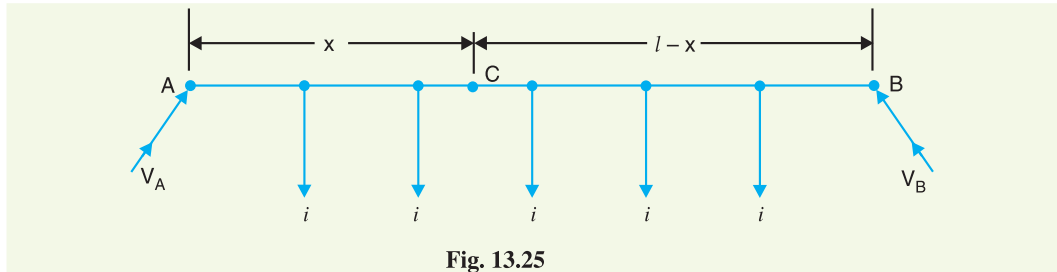

Fig. 13.25
- (ii) **Distributor fed at both ends with unequal voltages.** Consider a distributor AB of length l metres having resistance r ohms per metre run and with a uniform loading of i amperes per metre run as shown in Fig. 13.25. Let the distributor be fed from feeding points A and B at voltages V_A and V_B respectively.